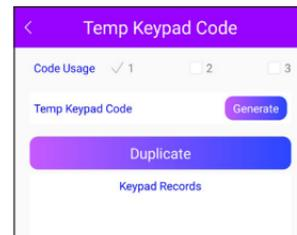

Fig. 26
- Step 3.** Code Usage limits the number of times a keypad code can be used: 1 for one-time use, 2 for two-time use, and so on. Set the number of uses (Code Usage) for this passcode, between 1 and 3, then tap Generate (Fig. 26).